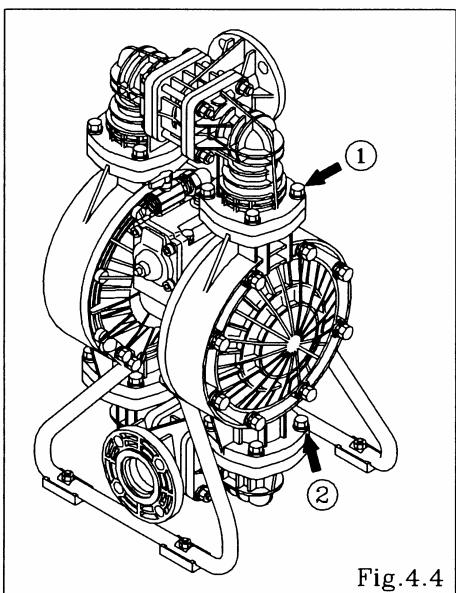

Fig.4.4
- Remove the 8 retainer bolts 1 from the out manifold, and remove the out manifold. [Fig.4.4]
- Remove the 8 retainer bolts 2 from the in manifold, and remove the in manifold. [Fig.4.4]